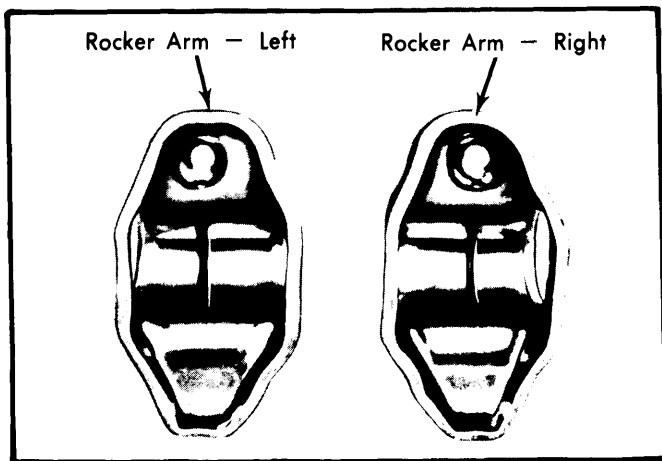
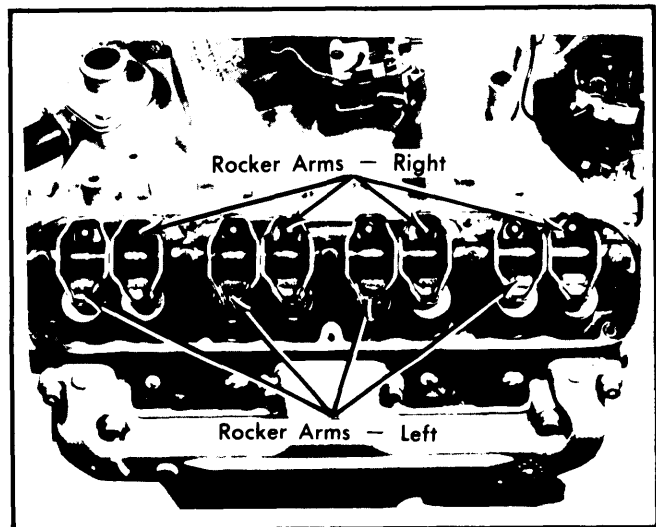

Fig. 6 Rocker Arm Identification
Fig. 7 Rocker Arm Location on Rocker Arm Shaft
1) Rocker arms are stamped steel type; arms are mounted on shaft attached to cylinder head at five support brackets which are cast into cylinder head. Rocker arms have right and left positions (See Fig. 6). If rocker arm assemblies were disassembled, reassemble with rocker arms in correct position on shaft. (See Fig. 7).